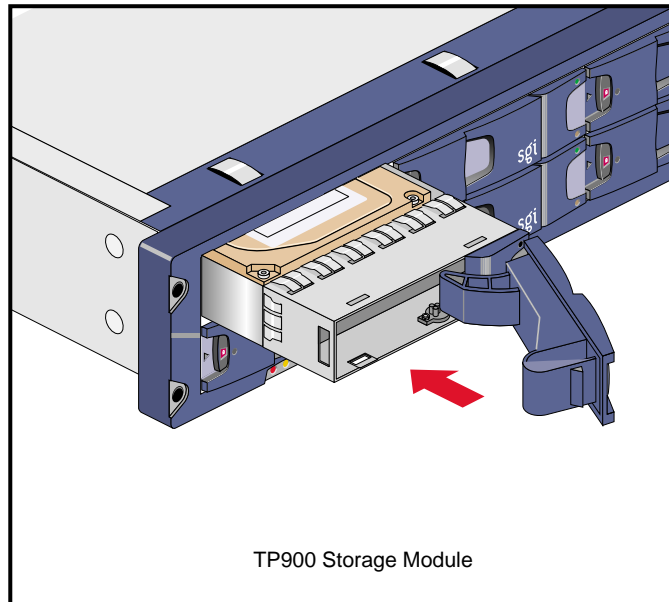

Figure 12-15 Carrier Camming Lever
6. Gently slide the carrier all the way into the enclosure until it is stopped by the camming lever on the right of the carrier, as shown in Figure 12-15.